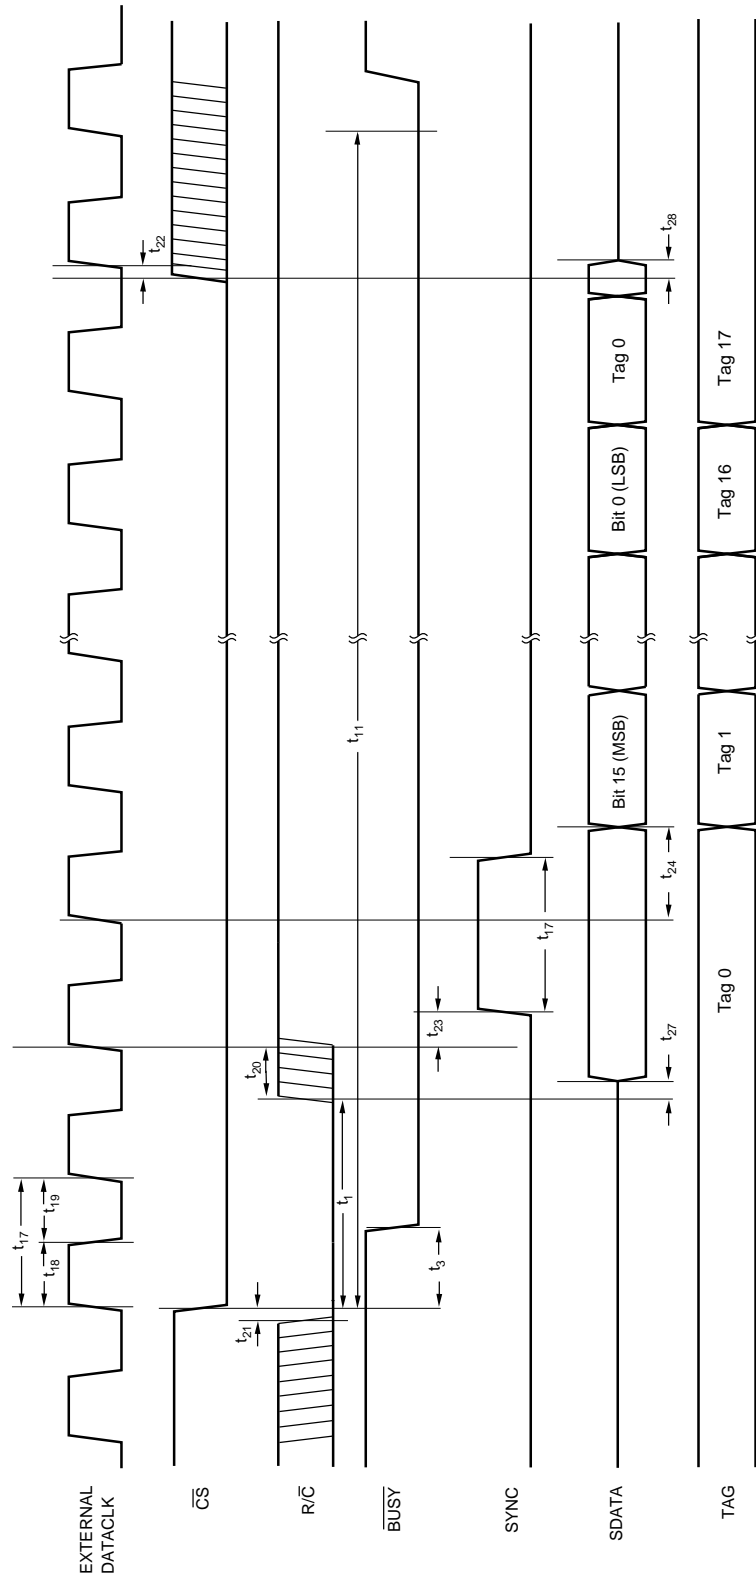

FIGURE 6. Conversion and Read Timing with External Clock (EXT/INT HIGH). Read During Conversion (Previous Conversion Results).
**NOTE:** For the best possible performance when using an external data clock, data should not be clocked out during a conversion. The switching noise of the asynchronous data clock can cause digital feedthrough degrading the converter's performance. Refer to Table II and Figure 6 for timing information.